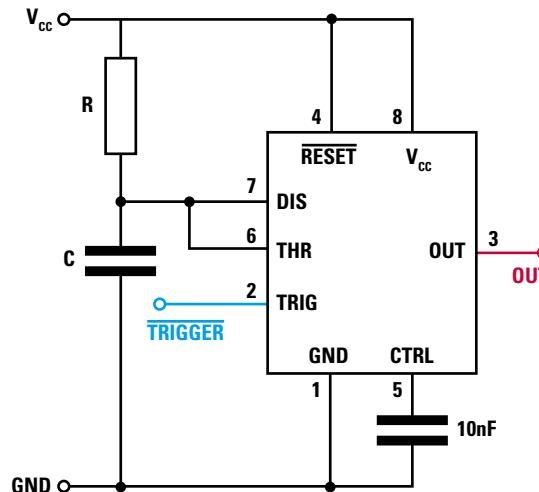

Figure 4 A 555 used in monostable mode
Monostable means that the circuit is stable in one state. We can force it into the other state, but it will return to the stable state as soon as it can. **Figure 4** shows the circuit. Notably, THRESH and DISCH are connected together and to VCC through a resistor (R) and to GND through a capacitor (C). When TRIG drops to low (i.e. below 1/3 VCC), the flip-flop's state changes to high. One effect of this is to turn off the discharge transistor. That allows C to charge through R. When it has charged to the point that the voltage across it is 2/3 VCC, the threshold comparator flips its output, resetting the flip-flop. That takes OUT low (back to the stable state) and turns on the discharge transistor connecting DISCH to GND, which drains the charge from C and takes the voltage at THRES to 0 (since it's connected to DISCH). The 555 is now happily back in its stable state until TRIG once more switches from high to low.
Figure 6 shows the basic circuit. There are two simple changes from **Figure 4**: